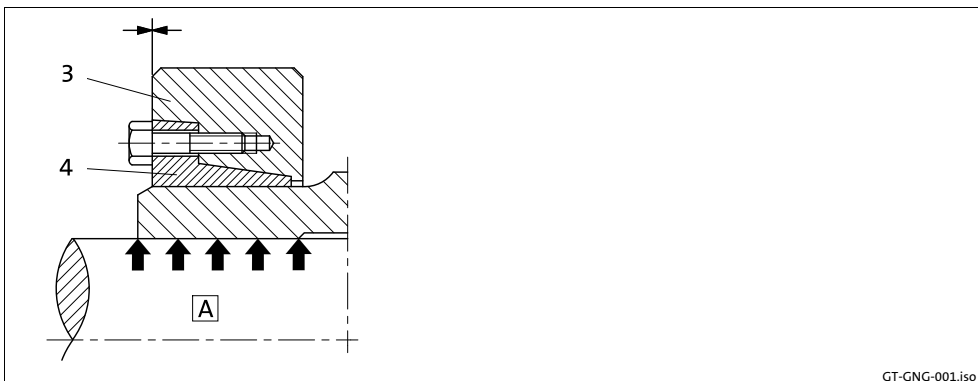

Fig. 15 Hollow shaft with shrink disk
The shrink disc is mounted correctly and fixed when the faces of the outer ring and the inner ring are aligned (Fig. 15). Minimum misalignments are permissible.
1. Remove protective cap (1).
2. Loosen clamping screws (2) evenly one after the other each by  $\frac{1}{4}$  revolution in several passes. Do not unscrew clamping screws completely to prevent accidents!
3. Press off outer ring (see Fig. 15), if necessary. For this, loosen the outer ring using the forcing threads and some clamping screws (number corresponding to the forcing threads in the inner ring). For loosening the outer ring, screw in the screws evenly to prevent canting. Press off the outer ring until loosened completely.